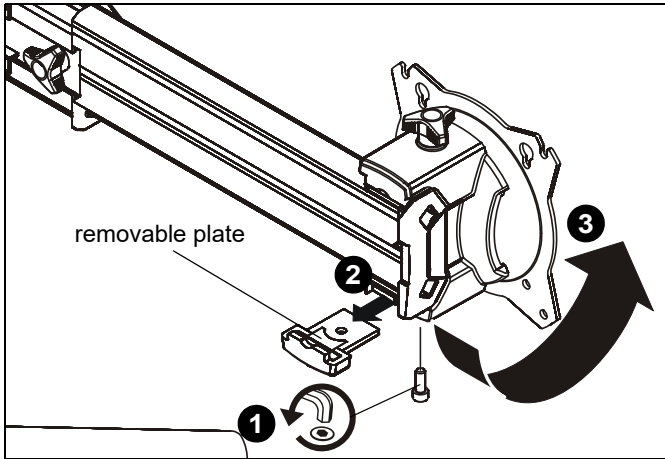

Figure 25
1. Remove hex head bolt from bottom of faceplate assembly. (See Figure 25)
2. Slide out removable plate from bottom of faceplate assembly. (See Figure 25)
3. Remove faceplate assembly from array arm. (See Figure 25)